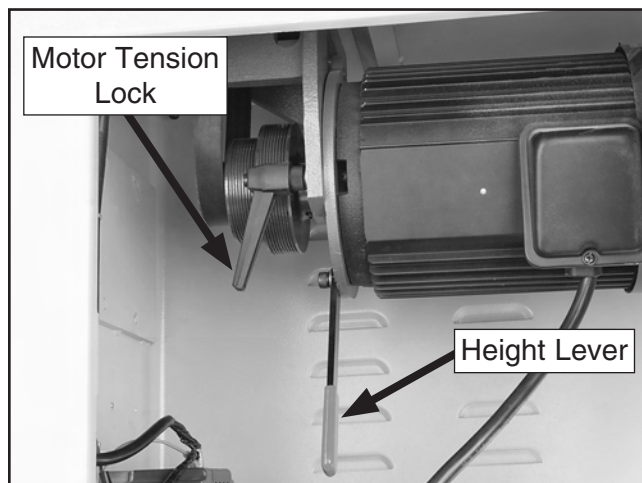

Figure 62. Motor tension controls.
8. Loosen the motor tension lock (see **Figure 62**), raise the motor up as far as possible using the height lever, tighten the tension lock, then remove the belt from the motor pulley.